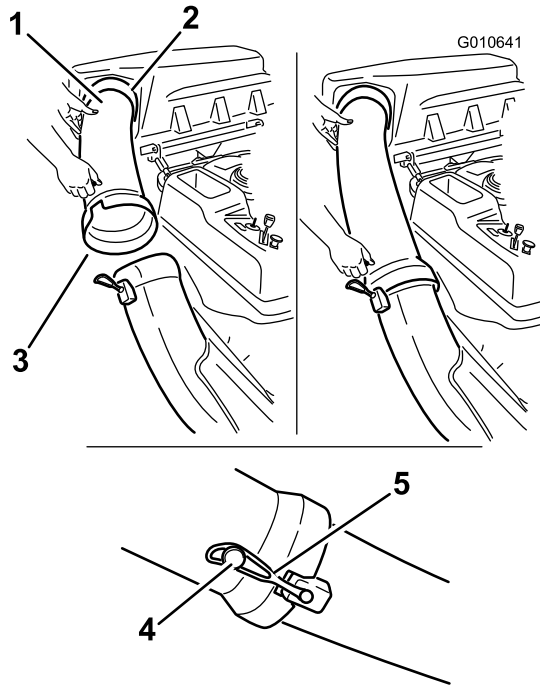

Figure 27
- Slide the curved end of the discharge tube into the opening in the bagger top (Figure 27).
- Slide the flared end of the discharge tube over the end of the chute. Move the rubber retaining strap on the chute snaps over the peg on the discharge tube to secure it (Figure 27).